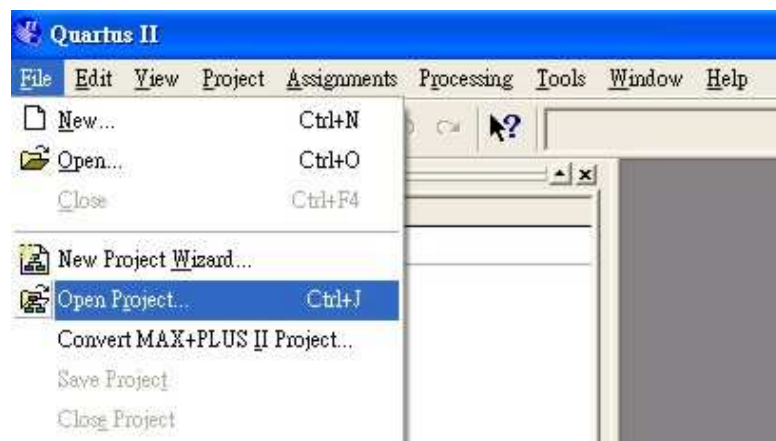

Figure 5.1. Menu for Opening Quartus II Project
- ✓ Click on File > Open Project (See Figure 5.1).